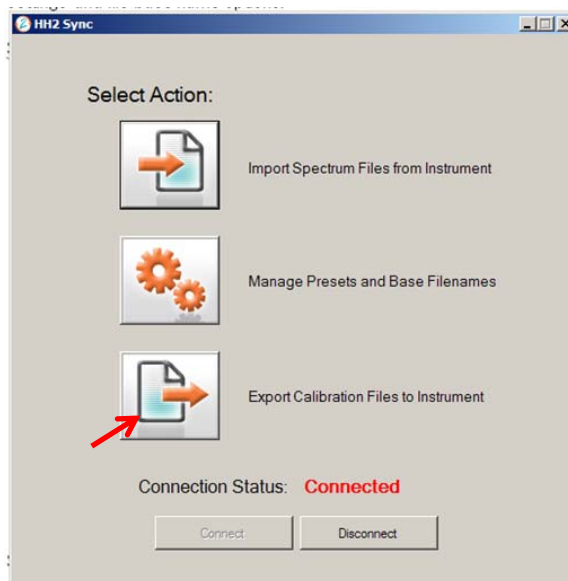

Figure 3-65: Export Calibrations
- Step 1 Click “Export Calibration Files to Instrument” (Figure 3-65).